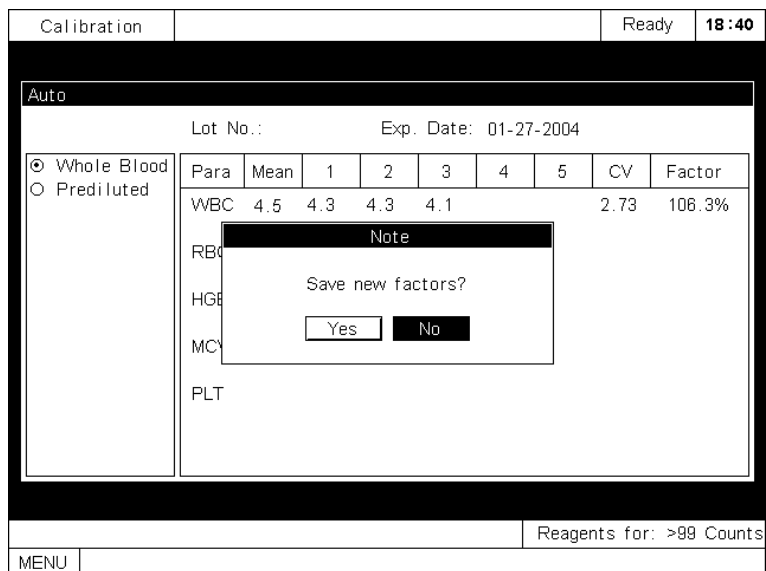

Figure5-14 Saving changes
- Press [MENU] and a dialog box will pop up to ask you to save the new factors, as Figure5-14 shows. To save the new factors, press [] [] to move the cursor to **Yes** and press [ENTER] to save the factors to the system. Otherwise, move the cursor to **No** and press [ENTER] to switch to the system menu without saving the new factors.